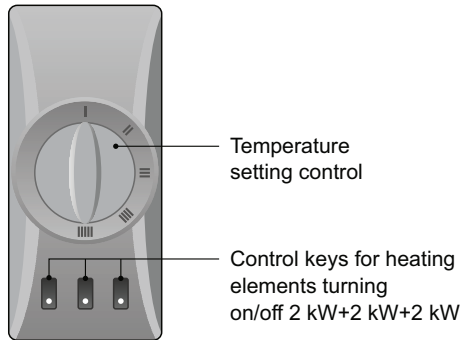

Fig 2. Control panel setting keys layout
4.2. The Heater is equipped with control panel allowing to control water temperature and its heating rate (**Fig. 2**).